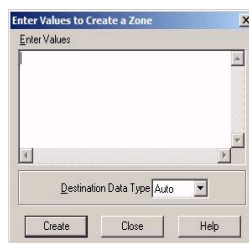

Figure 24-12. The Enter XY-Values to Create a Zone dialog.
1. From the Data menu, choose Create Zone, then choose Enter Values. The Enter XY-Values to Create a Zone dialog appears, as shown in Figure 24-12.